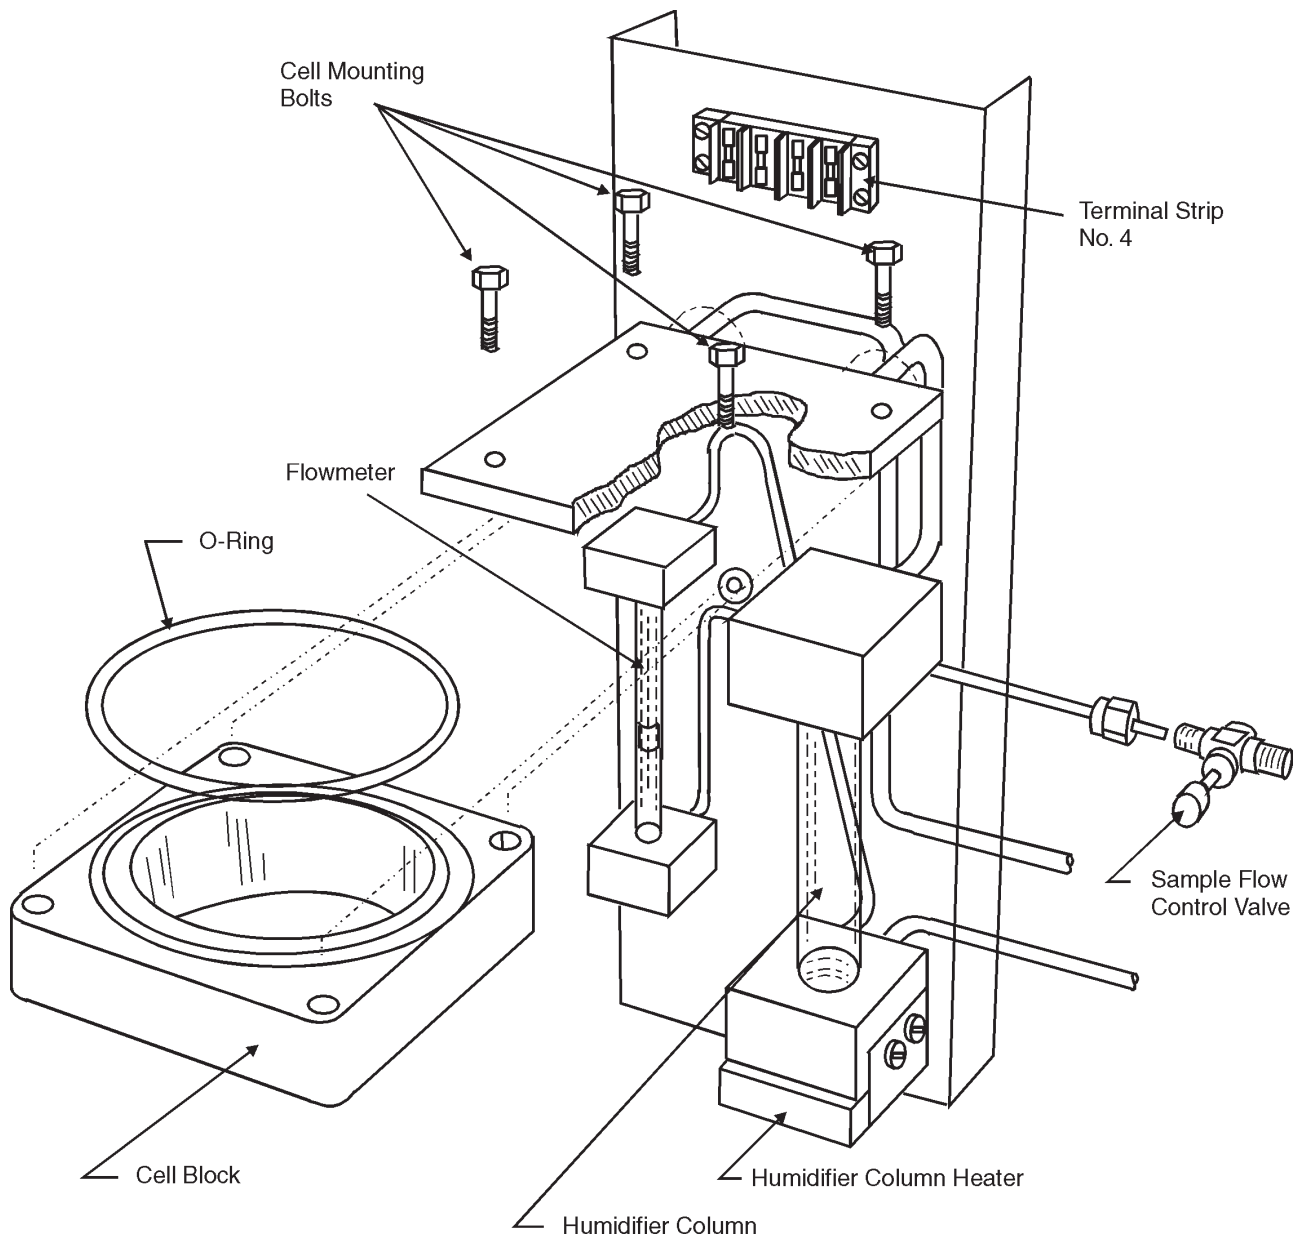

Figure 7: Cell Compartment Components
- 5) Carefully place the cell under the cell mounting plate with the outer terminal toward the front. Secure in place with four bolts supplied with the cell. Refer to Figure 7.